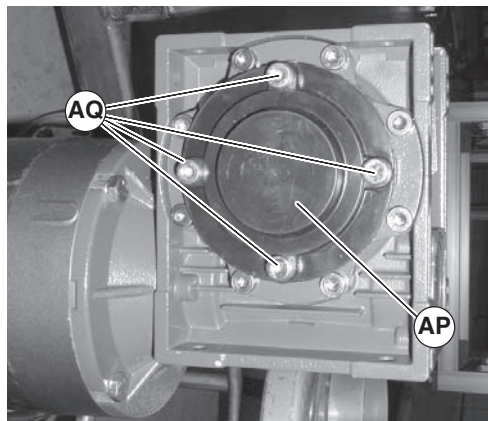

Figure 20
4. Install cover (Figure 20, item AP) with four (4) screws (AQ).